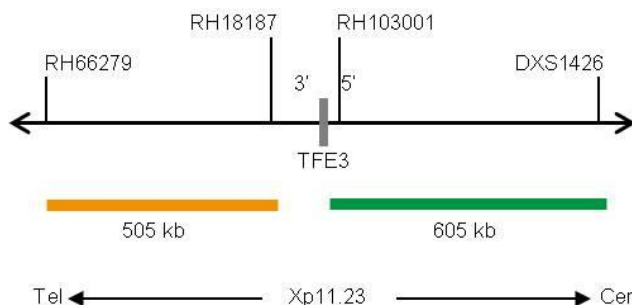

Fig. 1: SPEC TFE3 Probe map (not to scale)
- ZyOrange (excitation 547 nm/emission at 572 nm) labeled polynucleotides (4.5 ng/μl), which target sequences mapping in Xp11.23* (chrX:48,287,169-48,792,674) distal to the break point region (see Fig. 1).
- ZyGreen (excitation 503 nm/emission 528 nm) labeled polynucleotides (10 ng/μl), which target sequences mapping in Xp11.23* (chrX:48,906,685-49,509,699) proximal to the break point region (see Fig. 1).